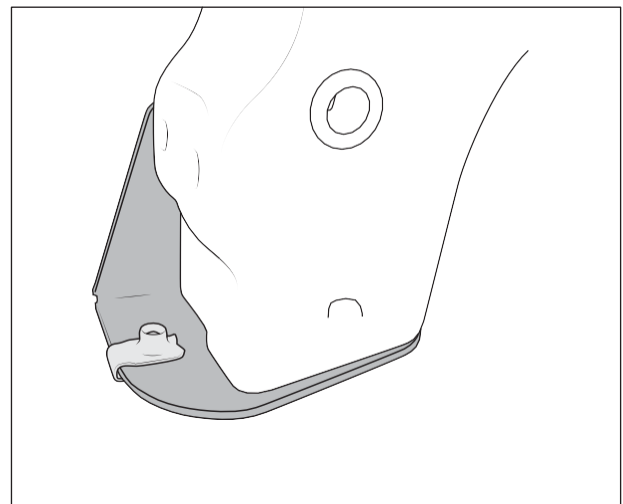

Figure 31
4. Install two provided M8 U-nuts to the bottom flange of the skidplate support brackets so that smooth surface is on the bottom side. Insert until the threaded hole is centered within the hole in the bracket (fig. 31).